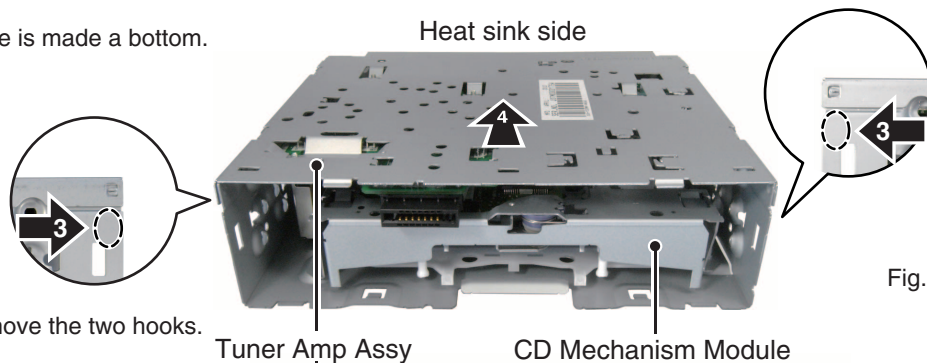

Fig.3
4. As shown in Fig 3, move the rear end of the feeding screw laterally and then upward, to remove it from the outer holder.